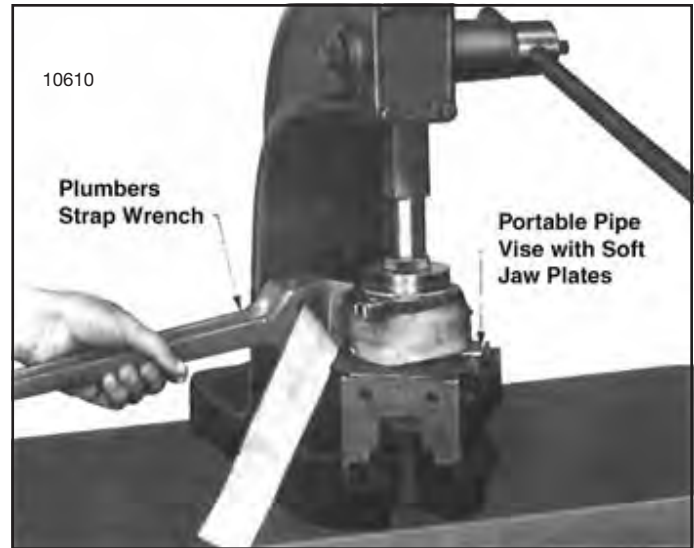

Figure 7-25. Winding Load Brake Gear
(6) The brake spring must be pre-loaded at assembly to a torque of from 6 to 10 lb. ft. when used with yellow (color code) spring and a torque of 10 to 14 lb. ft. when used with plain (no color code) spring. (See Section IX for proper spring). This is accomplished using a plumber's strap wrench to wind (rotate) load brake gear to set up spring (fig. 7-25) while pressing brake flange into place using an arbor press. Clamp pinion end of shaft into a portable vice to keep brake from rotating in press. Use brass or copper jaw plates on vise to protect pinion gear teeth. Wind gear counterclockwise (viewing brake from flange end) with strap wrench and press down on flange until snap ring groove in shaft is exposed allowing snap ring to be installed. Use extreme care not to over wind spring as yield will result and final spring torque will be reduced. Do not wind gear beyond point necessary to install snap ring in groove.